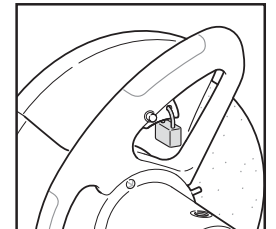

FIGURE 11. SECURING THE TRIGGER SWITCH
2. Place a padlock, with a shank diameter of 13/16" (21mm) or less, through the hole in the trigger and close it. This makes the trigger switch inoperable. See Figure 11.